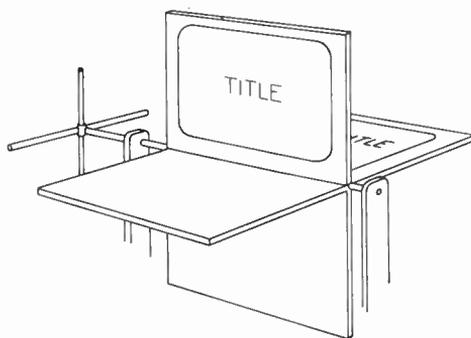

Fig. 9-10. Windmill.
*The windmill.* This is a variation on the square drum and gives much the same effect. Only four titles can be mounted on the windmill; but, with the proper design, titles can be changed during its operation on the stages which are not before the camera (Fig. 9-10).